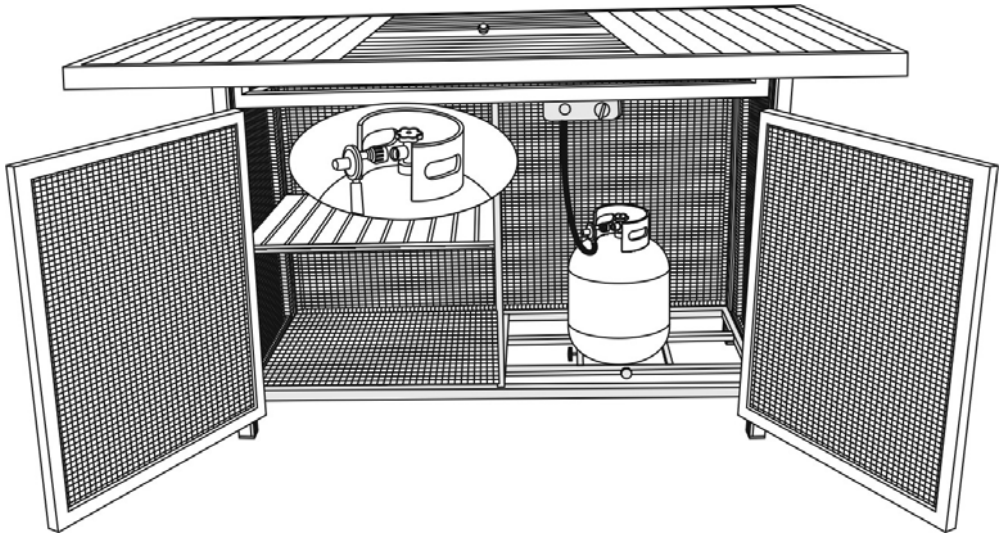

Figure 4
2. Remove the cardboard cover from the ignition well as shown in Figure 4.
3. Open the tank door, place the tank in the holder and connect the regulator as shown in Figure 4. Screw the black handle clock-wise to tighten. Turn the handle counterclock-wise to remove. The hose must point down. Open the control door and check that the valve is turned all the way clockwise to the “OFF” position. Open the tank valve. Apply a solution of soapy water to the tank-regulator connection and to the valve-hose connection to check for leaks. If soap bubbles continue to form, the connection has a leak. If a leak is found, close the tank valve and tighten all connections. **NEVER USE A FLAME TO CHECK FOR LEAKS.**